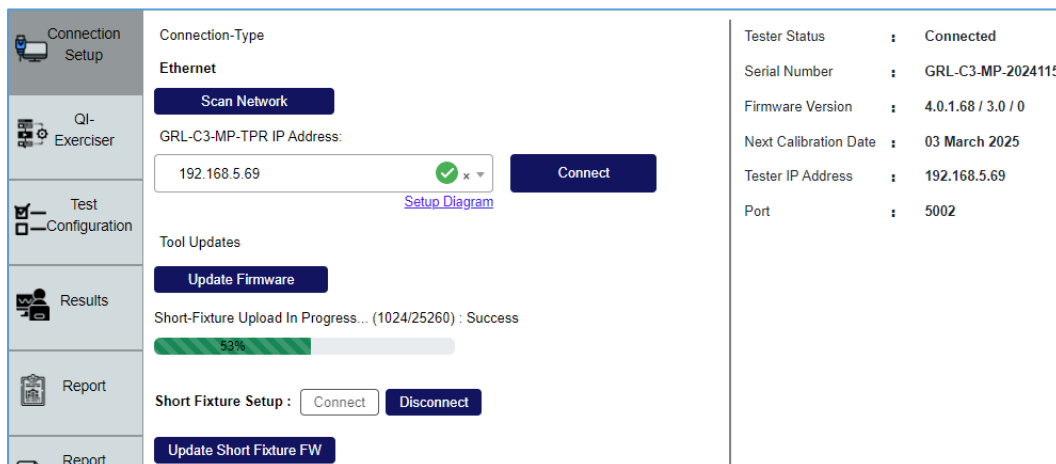

FIGURE 3.3: UPDATE GRL-C3-MPP-EXT FIRMWARE- #3
3. The firmware update process will start and may take a few minutes to complete (Figure 3.3 below).